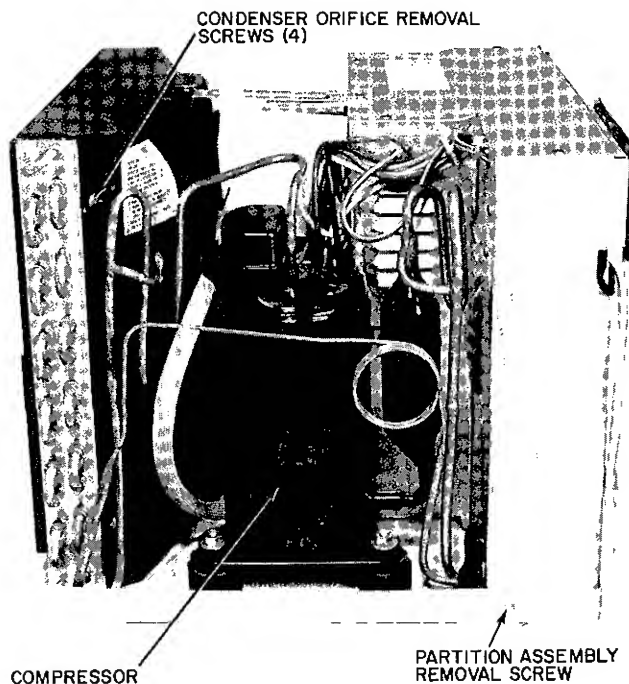

Fig 18 — Partition Assembly Removal Screws
- e Remove screw on compressor side which holds partition assembly to basepan as shown in Fig 18
- 16 **Compressor** — See compressor in Fig 18 Before removing compressor refer to Service, General Notes in this publication, and Carrier Standard Service Techniques Manual, Chapters 1 and 2